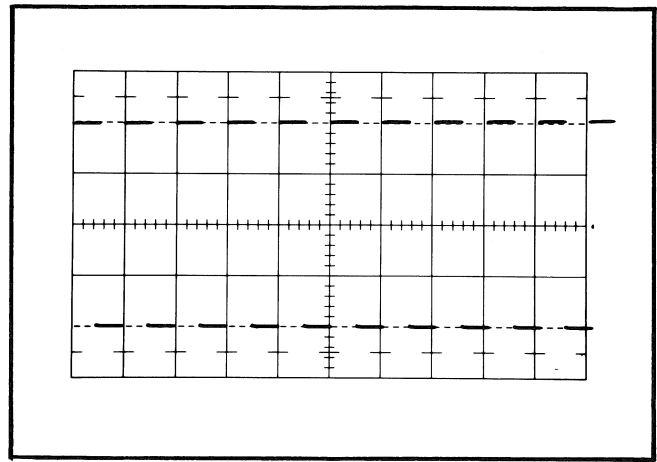

Fig. 5-4. Pulse repetition rate, LOW. Note that 10 cycles of the waveform are displayed.
- c. Check—7.5 to 12.5 cycles per 10 cm must be displayed. See Fig. 5-4.